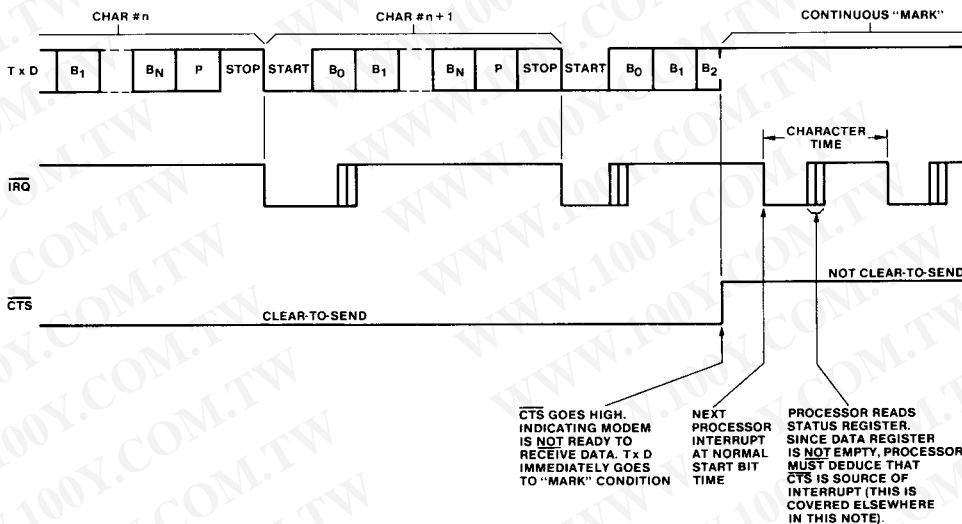

Fig. 10 - Effect of CTS on CDP65C51 transmitter
**Effect of CTS on CDP65C51 Transmitter (Fig. 10)**